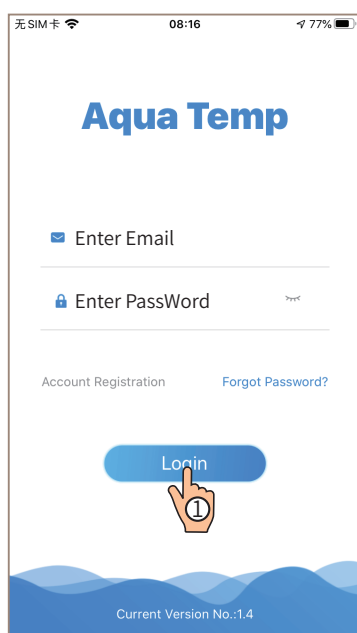

Fig.1 Login interface
Log in: Follow the instructions on the page(Fig.1), enter your registered email address and password, click① and jump to device list;